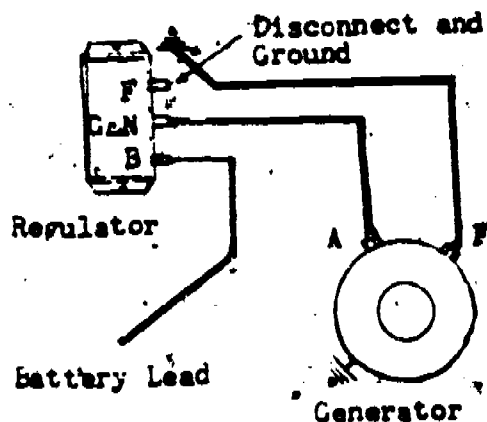

Figure 7. Connections for Making Generator Output Test. ("A" Circuit).
- b. Make the proper hookup, figure 7.